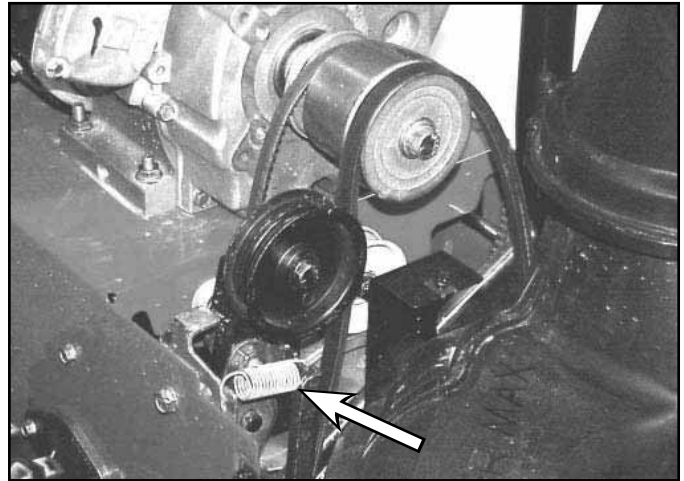

Fig 077
5. Remove the brake spring (Fig. 077).